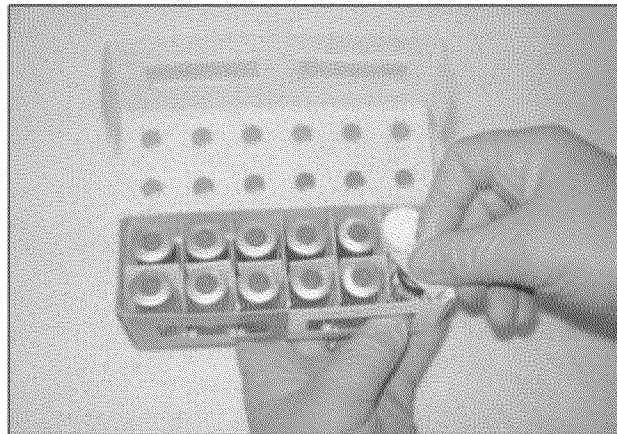

Figure 16. Sterilizing the Septum on the Top of the Vials
- c Sterilize the rubber stopper (septum) by wiping it with an alcohol pad as shown in Figure 16. Do not touch the vial tops after this step.